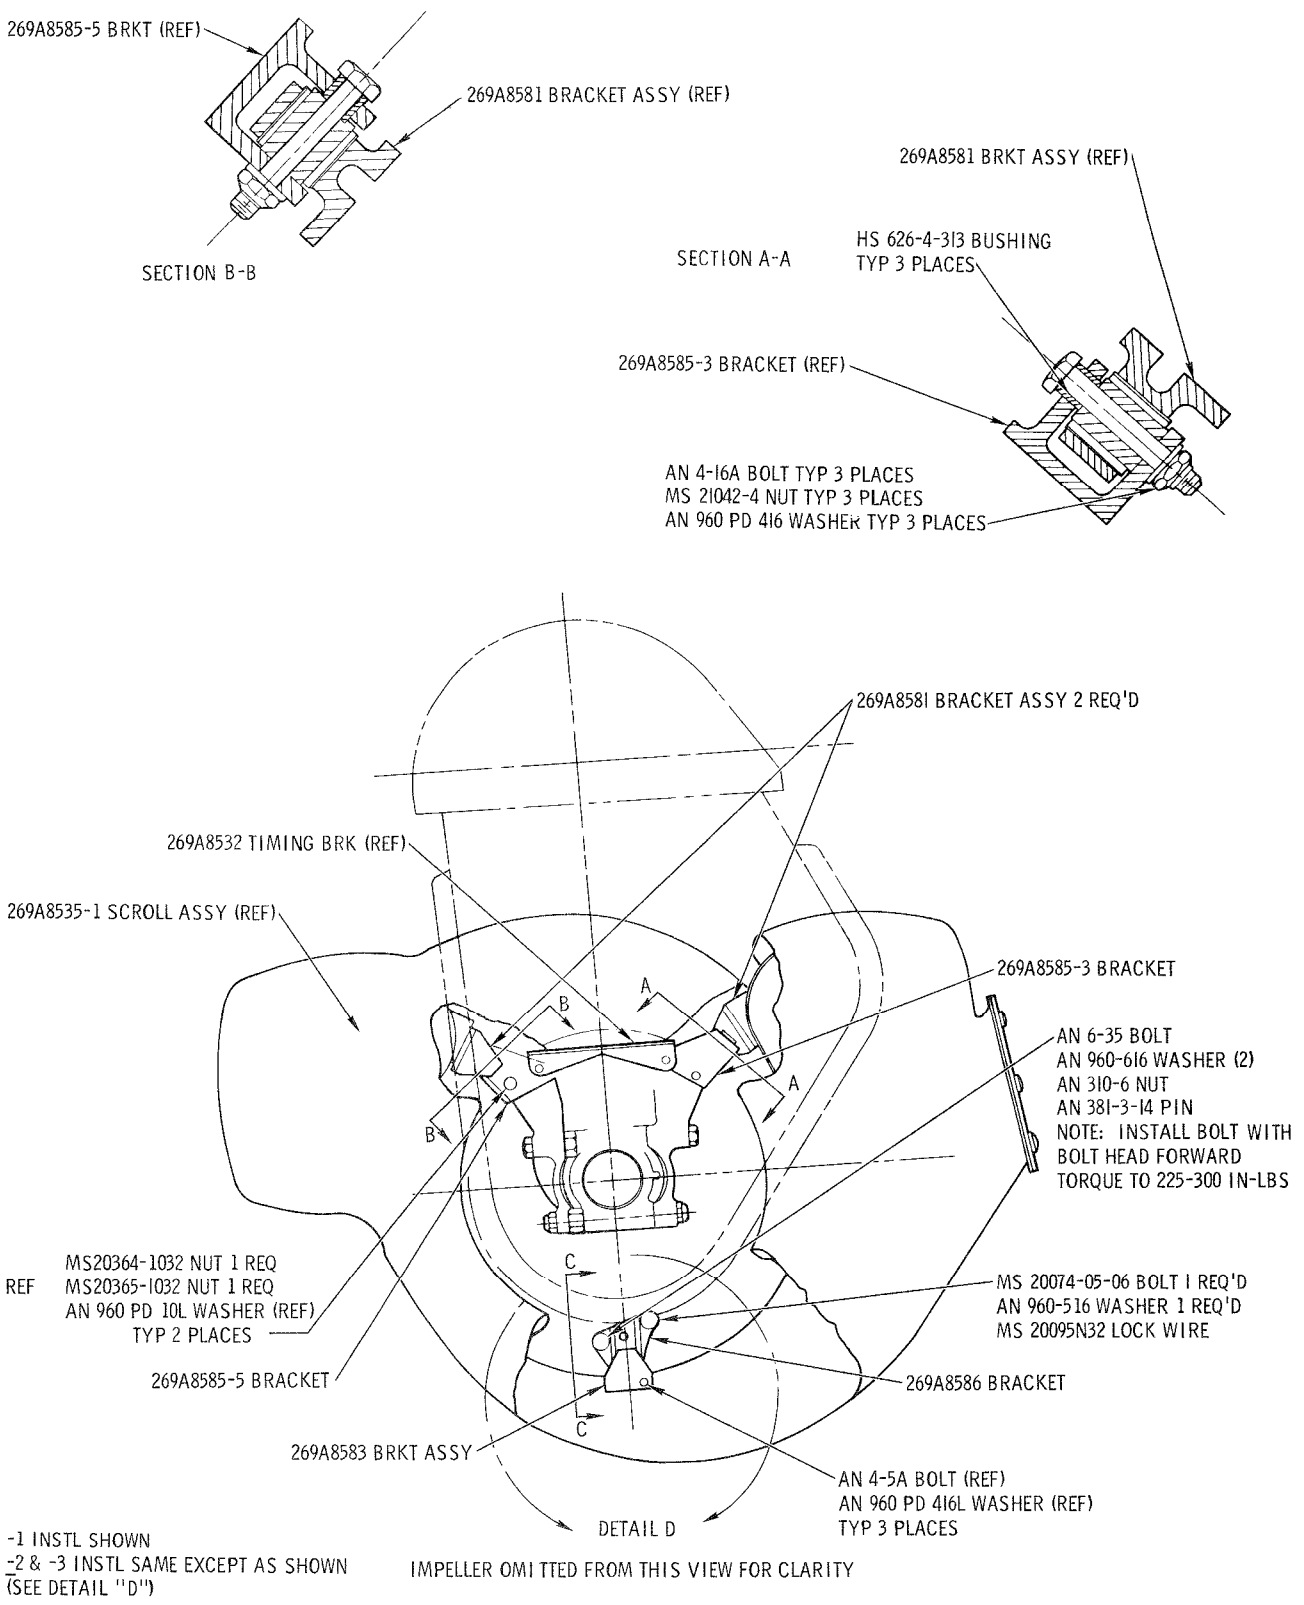

Figure 1. Scroll Assembly-Bracket Installation
- c. Assemble 8581 and 8585-3 brackets, per Section A-A, Figure 1.